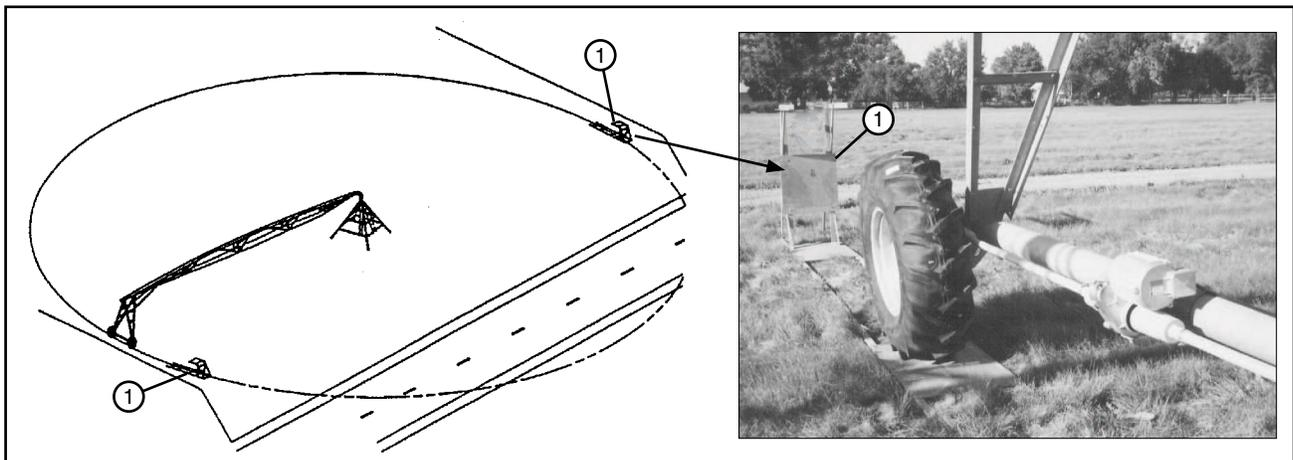

Figure 31-1 1. Physical barricade
- **PHYSICAL END OF FIELD STOP BARRICADES MUST BE INSTALLED ON ALL PART CIRCLE MACHINES. THE PHYSICAL BARRICADES SERVE AS A BACKUP IN CASE THE CIRCUITRY OR THE TRIP STRUCTURE SHOULD EVER FAIL. DELETION OF THE PHYSICAL BARRICADES CAN BE DONE BY THE CUSTOMER ONLY. SEE FIGURE 31-1.**